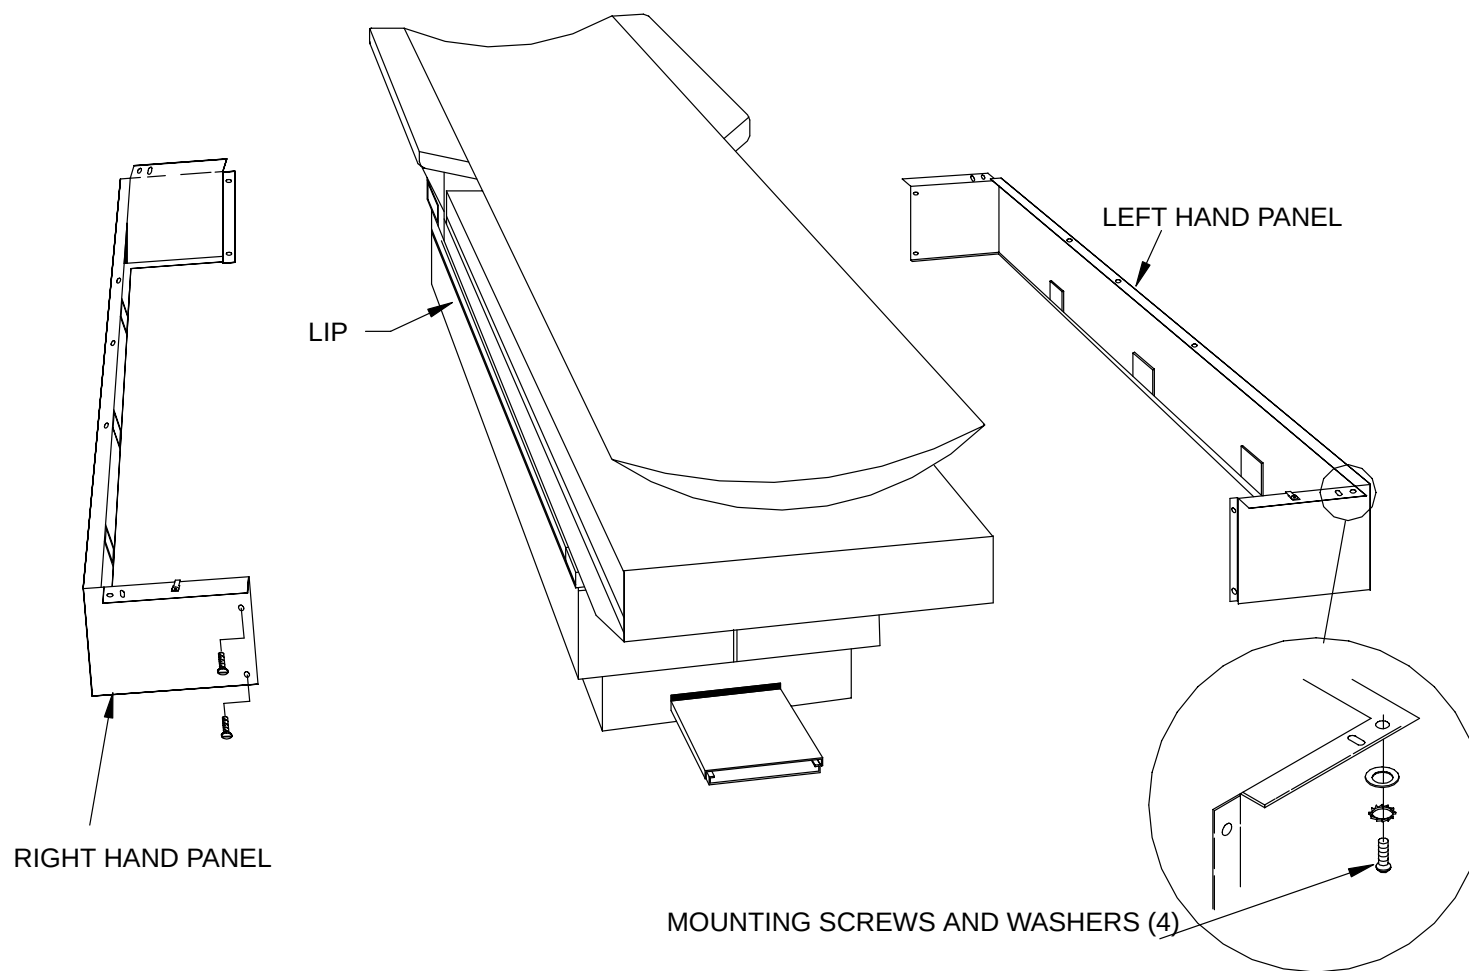

FIGURE 72 PATIENT SUPPORT COVER INSTALLATION
7. Refer to Figure 72. Install Patient Support covers. Place cover over sub-frame lips, and reinstall fastening screws at each end, installing top screws first. Fasten top cover panels to couch top, using four screws and washers, as shown.